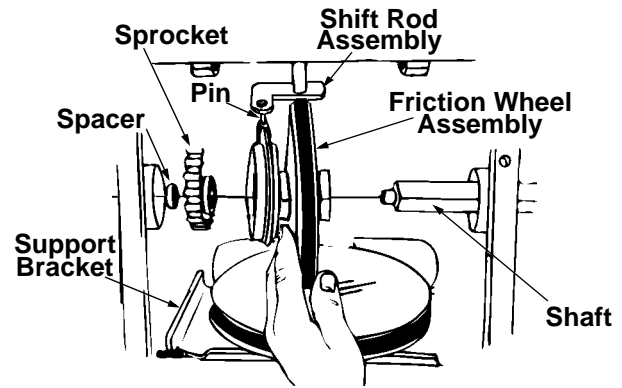

Figure 23
8. Position the friction wheel assembly up onto the pin of the shift rod assembly and slide the shaft through the friction wheel. See Figure 23.